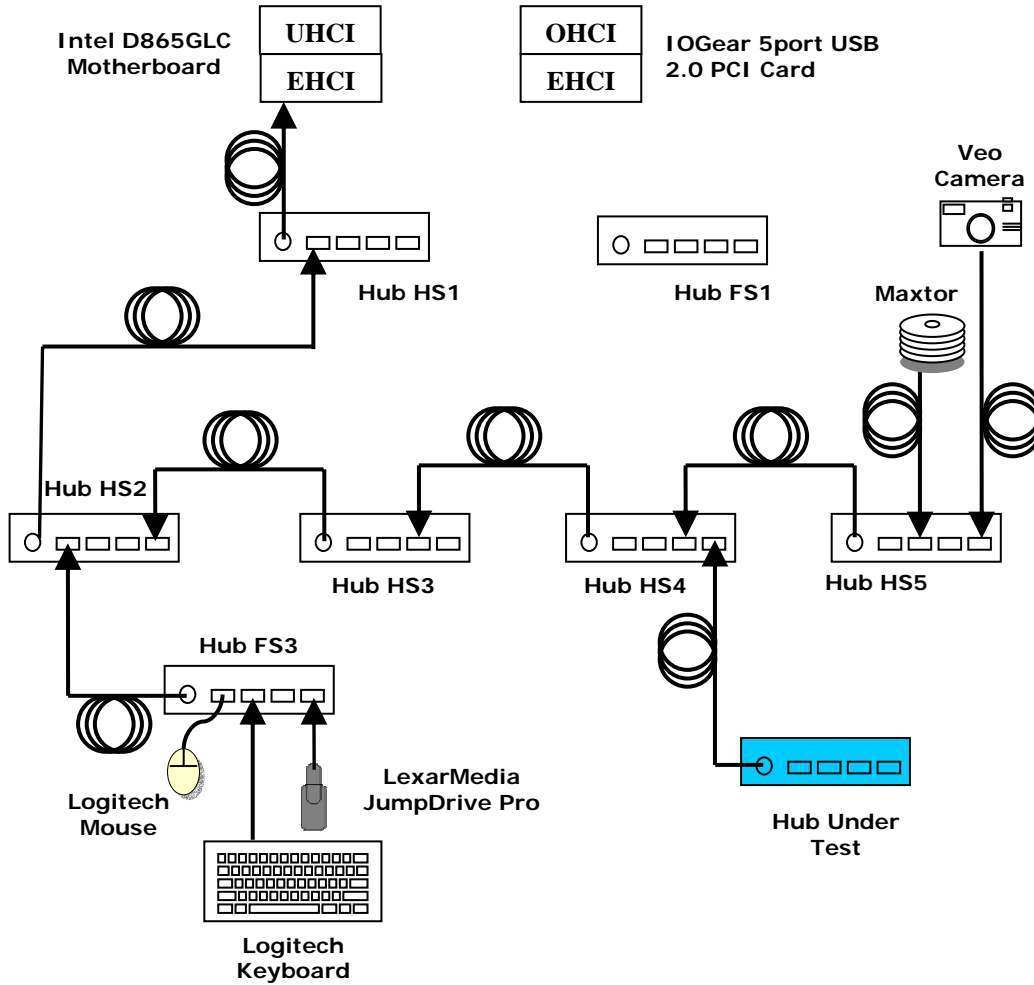

Figure D-7 Standard Hub Placement
- Connect hub under test to Hub HS4 with 5 meter cable (Please see Figure D-7 Standard Hub Placement)